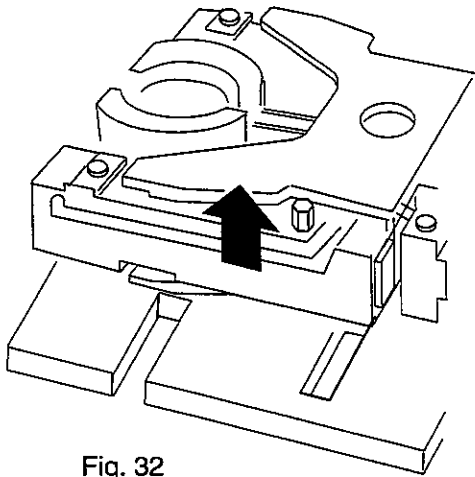
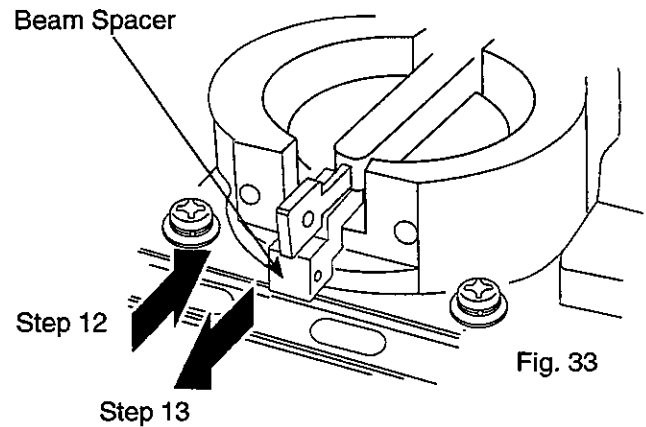
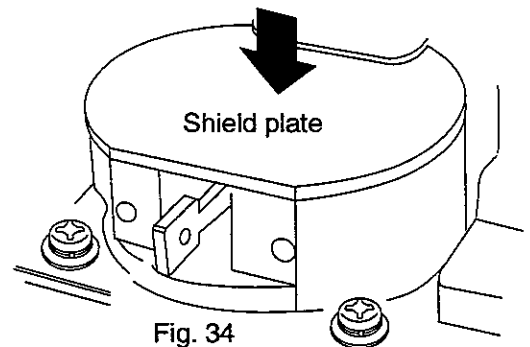

Fig. 32
Fig. 33
Fig. 34
**Step 12. Insert the spacer under the end of the beam (Fig 33) and tighten the tension flexure.**
**Step 13. Remove the force motor from the main fixture (Fig 32). Remove the spacer. (Fig 33). Place the shield plate (Fig 34).**